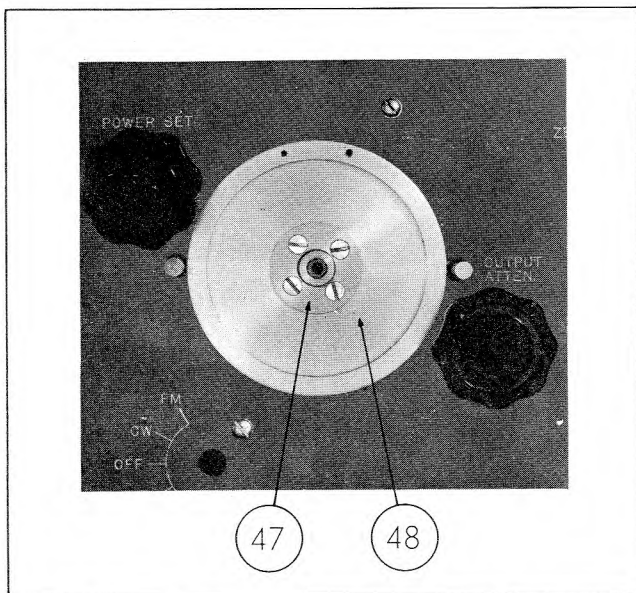
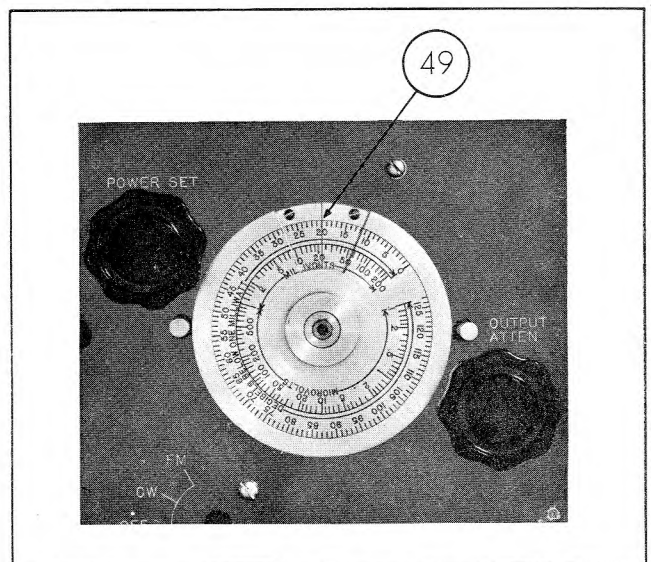
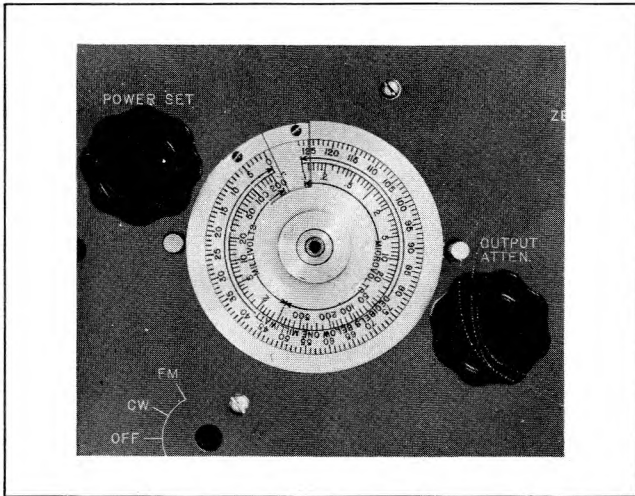

Figure 4-35. Index Plate Assembled
Figure 4-36. Attenuator Dial Assembled for Index Adjustment
Figure 4-37. Position of Index with Both Controls Set Counter-Clockwise
Figures 4-35 to 4-37 show the assembly of the attenuator dial and index system. Before tightening the four 6-32 x 1/4 inch flat head screws which hold the index plate (48) and clamping ring (47), place the dial on the hub and fasten the index (49) as shown in figure 4-36. It should now be possible to slip the index plate when the POWER SET control is held fast.
The index plate and POWER SET control should be adjusted so that the POWER SET control swings the index an equal amount on either side of vertical (12 o'clock); thus, in figure 4-36 it is possible to swing the index by use of the POWER SET control from approximately the 28 db mark to approximately the 12 db mark.
The index and dial should then be removed carefully and the four clamping screws shown in figure 4-35 tightened without disturbing the position of the index plate or the POWER SET control. The index and dial should be replaced in such a way that when both POWER SET and OUTPUT ATTEN controls are completely counter-clockwise the index is one db from the zero mark as shown in figure 4-37.